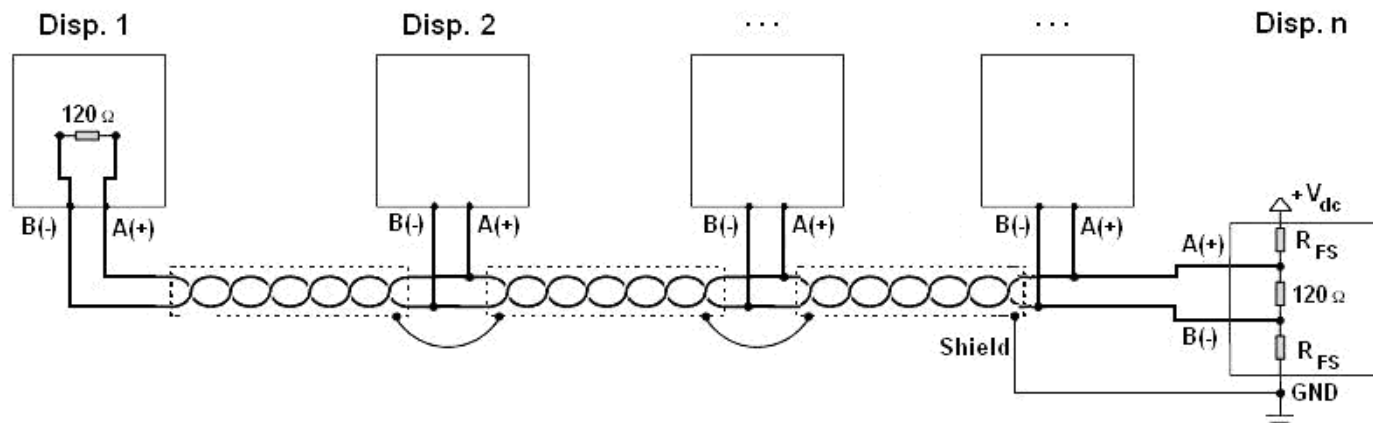

Figure 1: electrical diagram of RS485 connections.
- The shielding can be connected into a single point of the entire network (as shown in Figure 1) or both its ends, however it's important that **all the masses have the same potential**, in order to avoid the forming of current rings.
- On the RS485 network normally one connects **2 termination resistances** equal to the characteristic impedance of the cable (the typical value is 120 Ω, see Figure 1), **ONLY** on the 2 devices **which are at the 2 ends of the cable**. The terminal resistance is not supplied with the ports of the indicator.
To create a resistive divider which maintains this difference of potential also when all the transmitters are disabled, inert in the RS485 port of the indicator where there are the termination resistances, the **polarisation or fail-safe resistance** (R_{FS} in Figure 1). The value of these resistances is between 390 Ω and 2,2 kΩ.